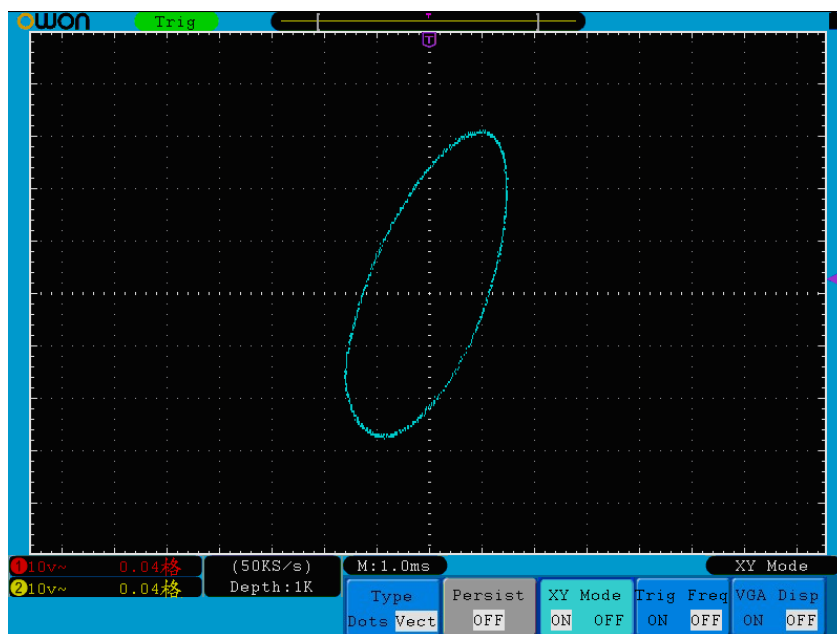

Figure 5-33 XY Display Mode
2. Press the **H3** menu selection button to set XY Mode **ON**. The display format is changed to be XY mode (see *Figure 5-33*).